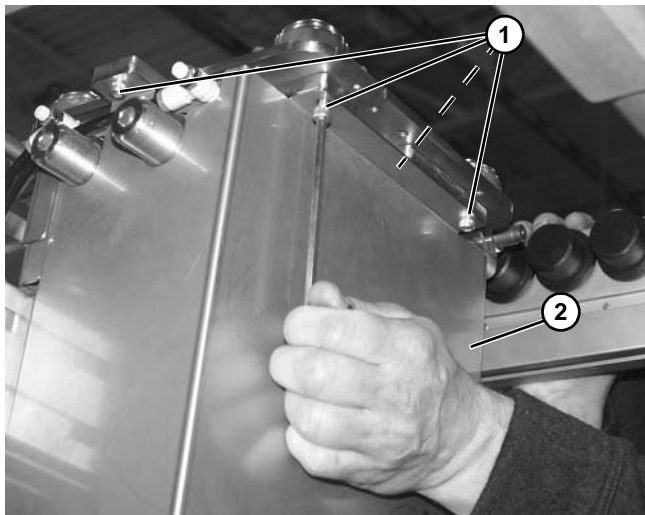

Figure 58
1. Remove four screws (**Figure 58, item 1**) that secure cylinder guard (**Figure 58, item 2**).